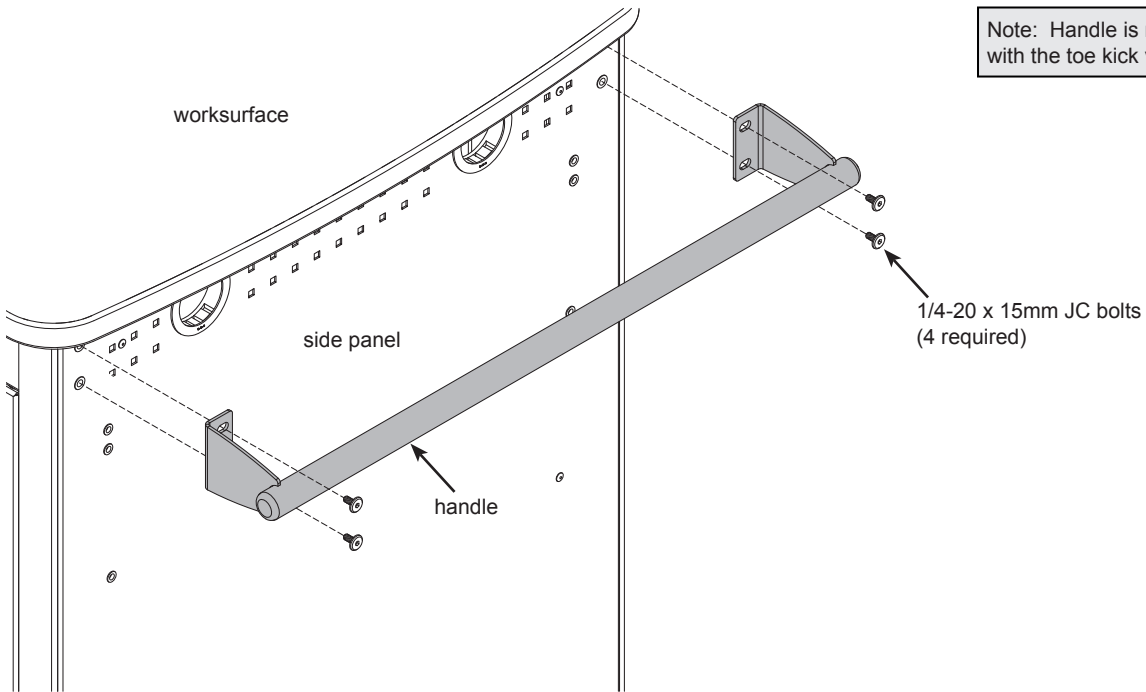

Figure 1
2. Attach the handle to the cart side panel with (4) 1/4-20 x 15mm JC bolts. **Figure 1.**